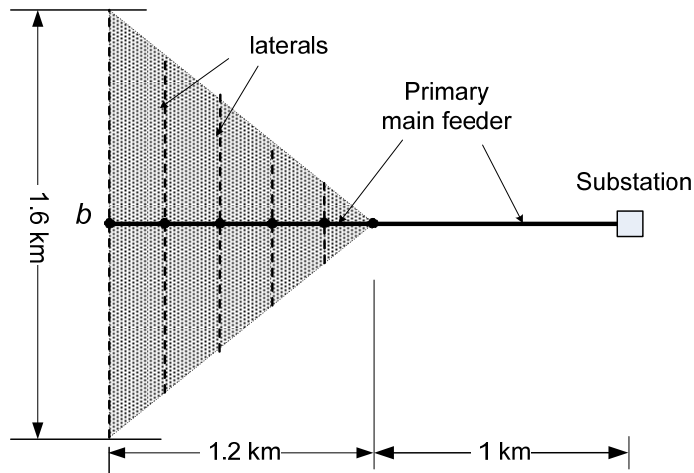

Figure 2.2
- (c) For question 2(b) above, if the substation is built at a location as shown in Figure 2.2, determine the percent voltage drop at the end of the primary main feeder for this design (point *b*). Compare the two designs. Explain which one is better.